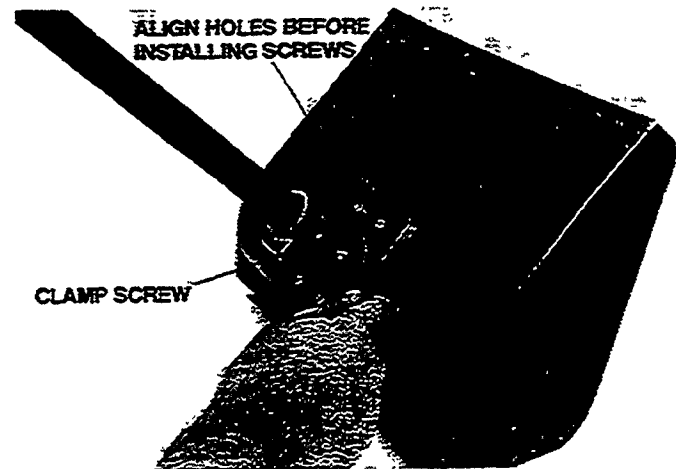

Figure 41
- Loosen the driveshaft clamp screw and remove the locking screw (Fig. 41).
- Tighten the clamp screw securely, with the Allen wrench supplied (Fig. 41).